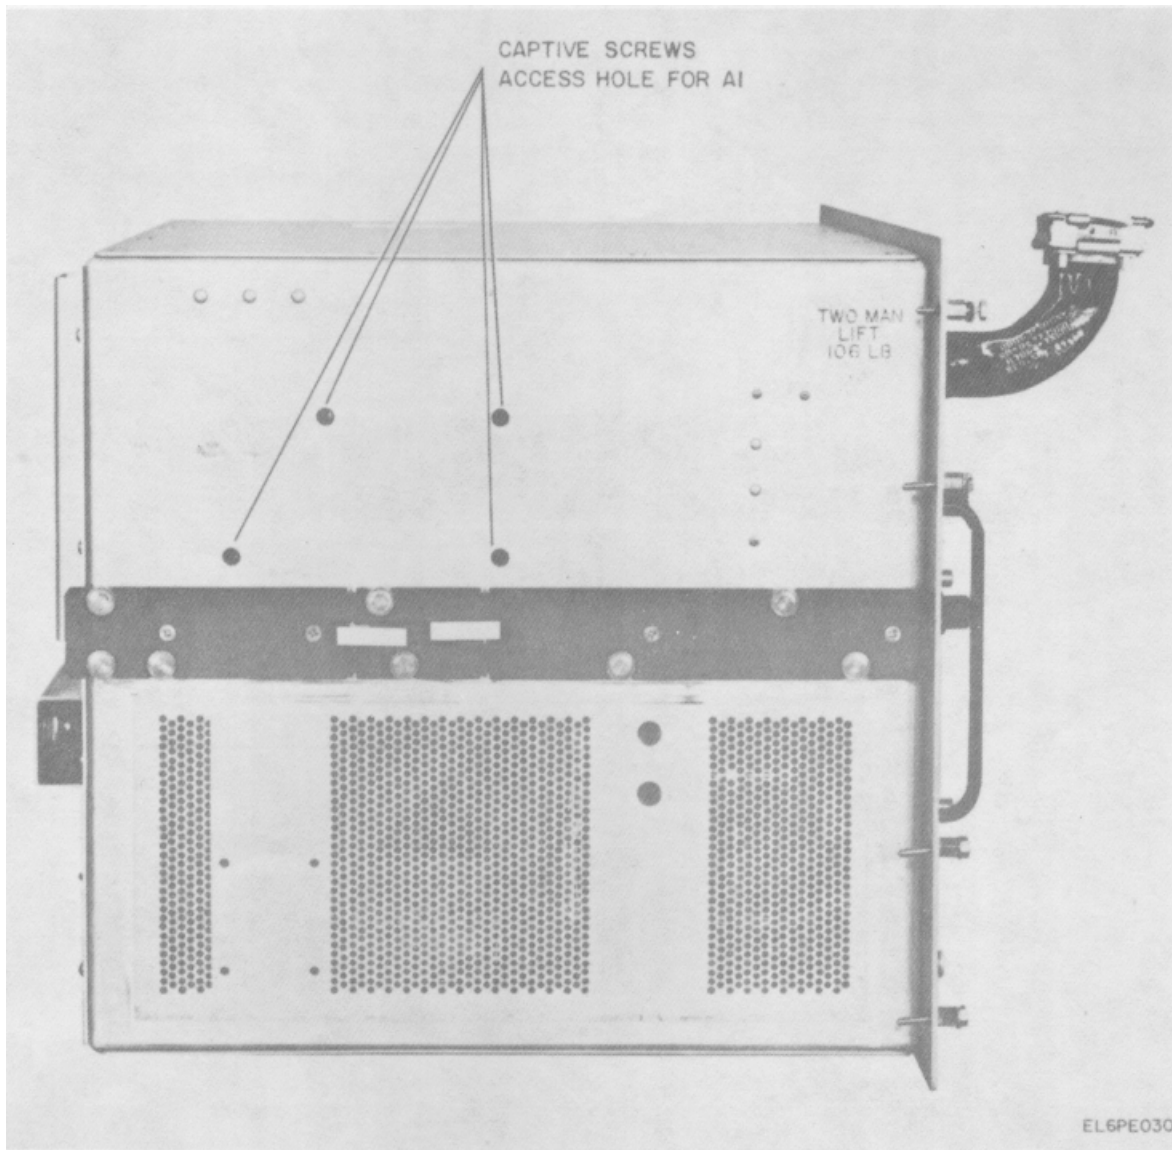

Figure 5-4. Power Amplifier, Module A1 Captive Screws.
(8) Loosen the four captive screws which secure the module bracket. These captive screws are reached through access holes in the left side of the PA (fig. 5-4).
(9) Remove the module and bracket.
(10) Remove the four screws which secure the module to the bracket and separate the two.
(11) Replace the module by repeating steps (2) through (10) above in reverse order.